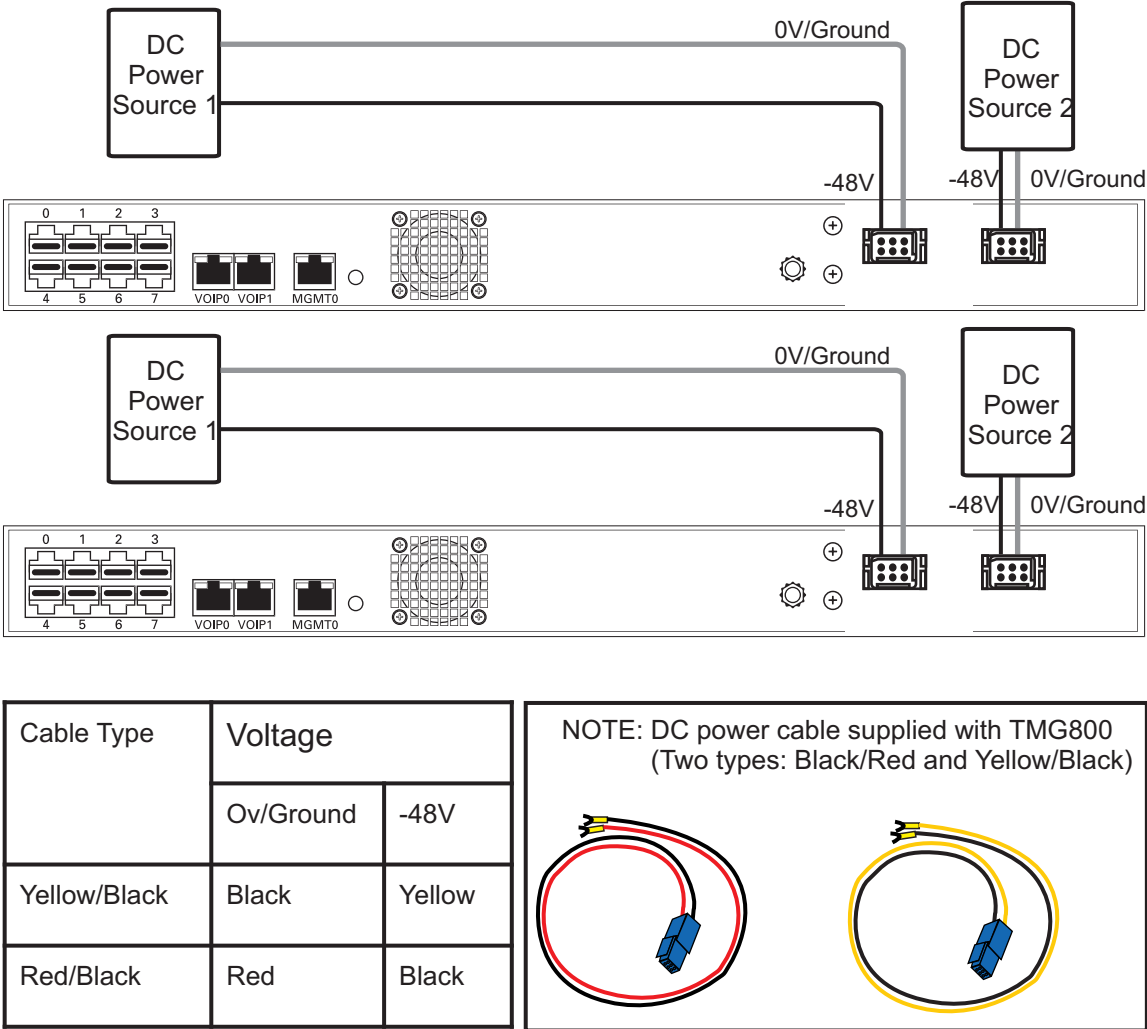

Figure 2.13 TMG800 and TMG800 +1 DC Power Connections
1. Connect the first DC power connector of the TMG800 and TMG800 +1 to DC power source one. See figure 2.13 on page 29.